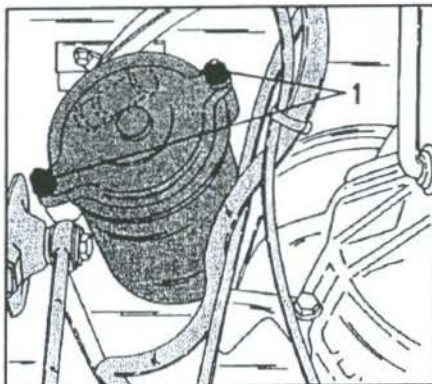

Fig. 1.80 – The two nuts (1) secure the cover at the upper end of the oil filter housing. The filter element will appear after removal of the cover.
- Place a suitable container underneath the oil filter and slacken the nuts (1) securing the filter housing cover in Fig. 1.80 without removing them fully.